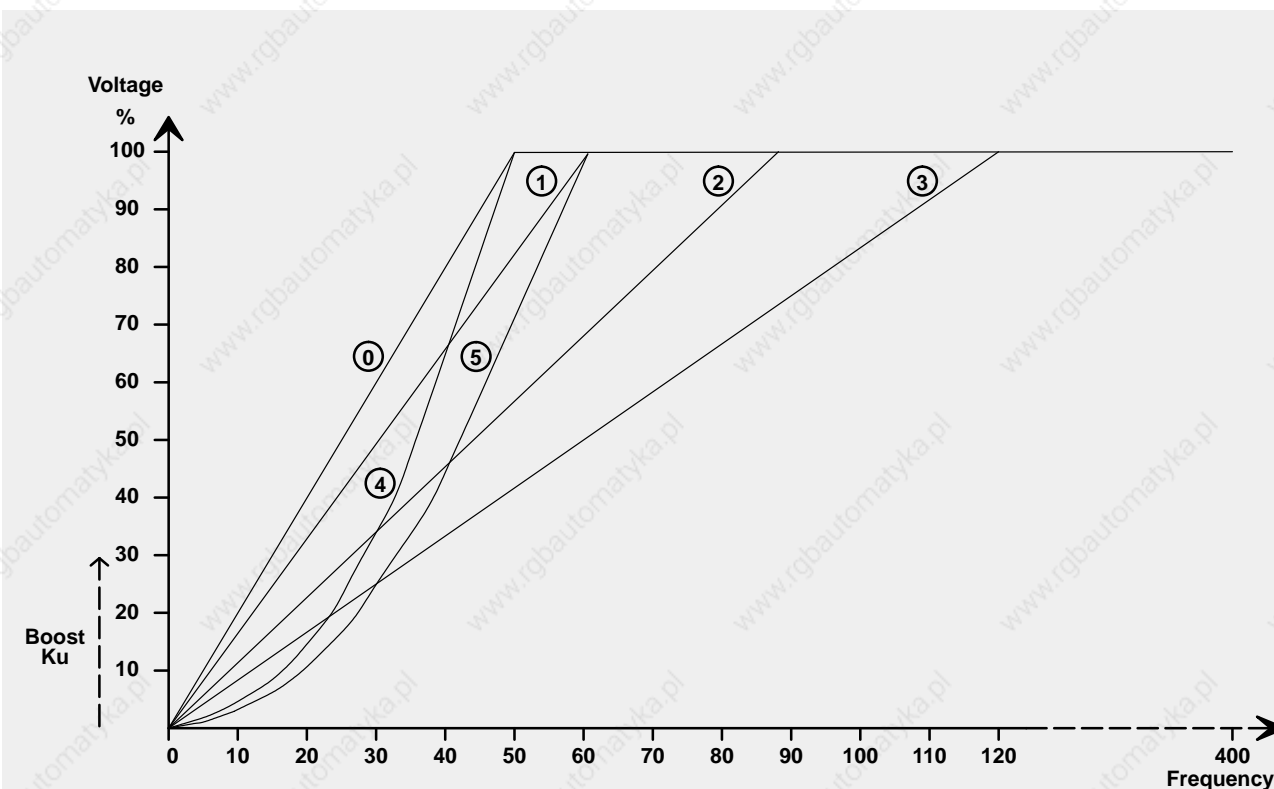

Figure 2: Voltage/Frequency Characteristic Curves
Six voltage/frequency characteristic curves are available plus one programmable curve (see Figure 2). They are intended for the following applications:
- Curve 6\*: Programmable (not shown in Figure 2)